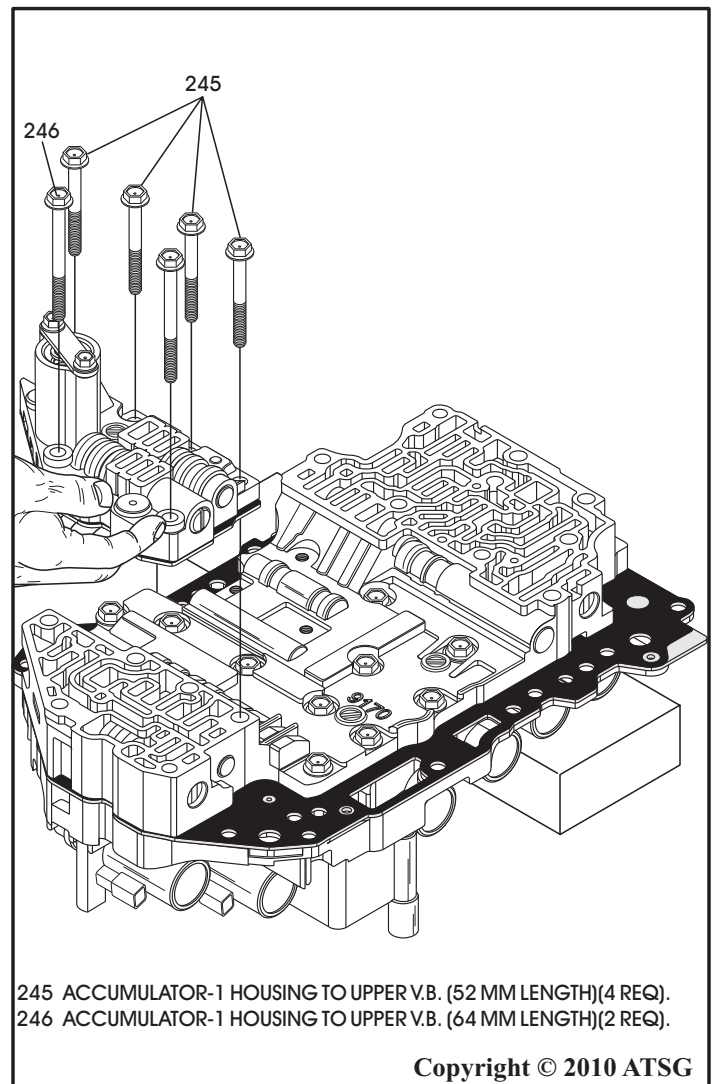

Figure 161
33. Again using your hand as a clamp, hold spacer plate against the accumulator body, turn the assembly over and install it onto upper valve body, as shown in Figure 161, and install proper retaining bolts.